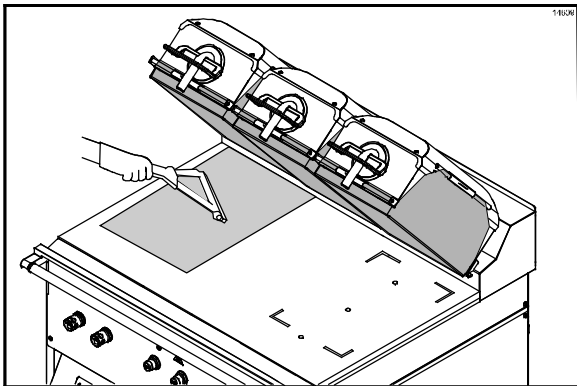

Figure 18
9. Using the grill squeegee, gently squeegee out air bubbles, making sure not to crease or fold the release sheet. (See Figure 18.)